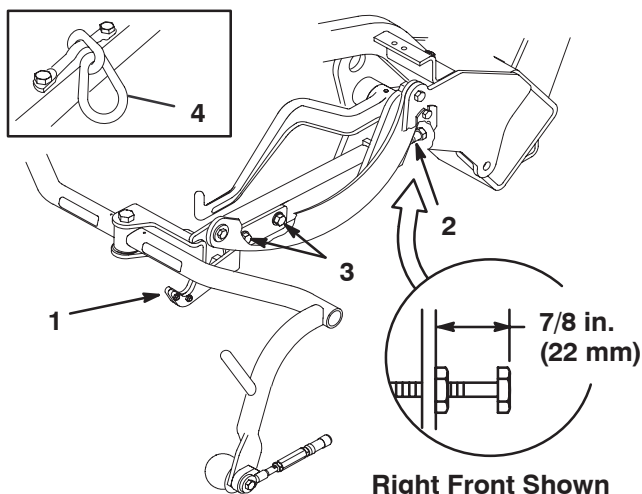
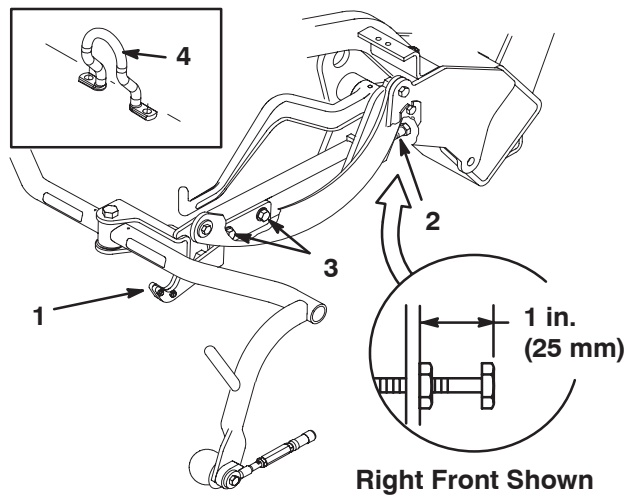

Figure 20
Figure 22
Check the transport height (Fig. 20 & 22) and adjust, if required.
2. On cutting units equipped with a chain link or a straight lift hook (Fig. 20 & 21, insets) verify that the distance from the top of the carrier frame adjusting screw to the back of the carrier frame is 7/8 inch (22 mm). If the distance is not 7/8 inch (22 mm), proceed to step 4. If the cutting unit is equipped with an offset lift link (Fig. 22), proceed to the next step.
3. On cutting units equipped with a offset lift hook (Fig. 22, inset) verify that the distance from the top of the carrier frame adjusting screw to the back of the carrier frame is 1 inch (25 mm). If the distance is not 1 inch (22 mm), proceed to step 4.
4. Loosen the transport plate mounting screws (Fig. 20–22).
7. If the carrier frames are not at the same height, loosen the jam nut on the carrier frame adjusting screw (Fig. 20–22). Rotate the screw outward to raise and inward to lower. Tighten the jam nut after the proper height is obtained.